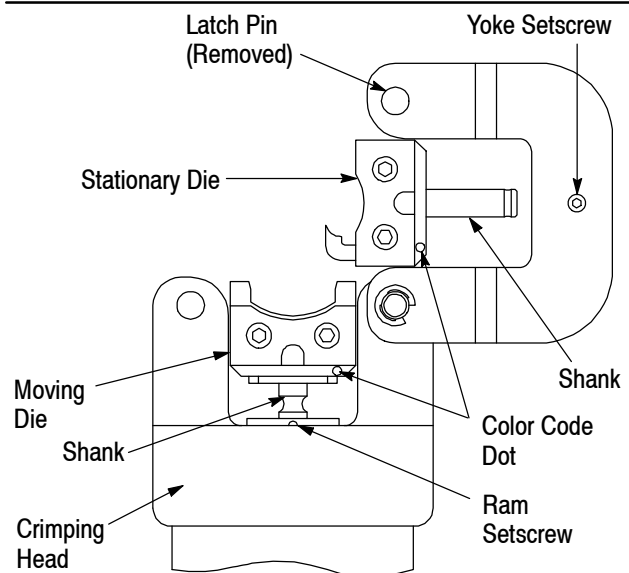

Figure 2
1. Remove latch pin and open yoke on crimping head. See Figure 2.
The stationary die has a large shank and the moving die has a small shank, as shown in Figure 2.